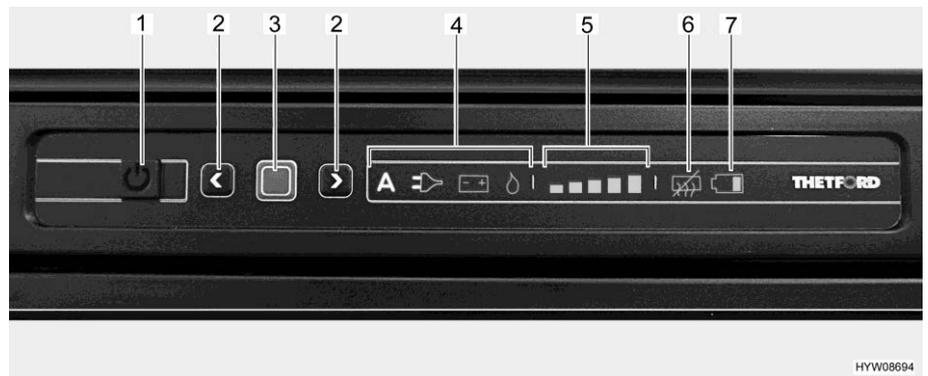

Fig. 242 LED operating panel (Thetford refrigerator)
- Press and hold the On/Off button (Fig. 242,1) for 1 second. The button lights up green. To save energy, after approximately 10 seconds the display is dimmed.
- Press confirmation button (Fig. 242,3). The operating mode previously selected is displayed.
- Press and hold the confirmation button (Fig. 242,3) for about 2 seconds. The operating mode symbols flash.
- Manual power selection: use the arrow keys (Fig. 242,2) to select the desired energy source.
- Automatic power selection (only version with automatic power selection): use the arrow keys (Fig. 242,2) to select the operating mode "A".
- Confirm your selection with the confirmation button (Fig. 242,3).
- Press confirmation button (Fig. 242,3) again. The cooling level indicator (Fig. 242,5) flashes.
- To change the setting, press the arrow keys (Fig. 242,2) until the desired setting is displayed.
- Press and hold the On/Off button (Fig. 242,1) for about 2 seconds. All lights go out. Refrigerator is switched off.
Refrigerating temperature control After switching it on, the refrigerator automatically selects the previously selected thermostat position. This position can be adjusted manually by using the arrow keys (Fig. 242,2). It takes a few hours till the refrigerator reaches its normal operating temperature. When changing over to another operating mode, the thermostat setting is kept.